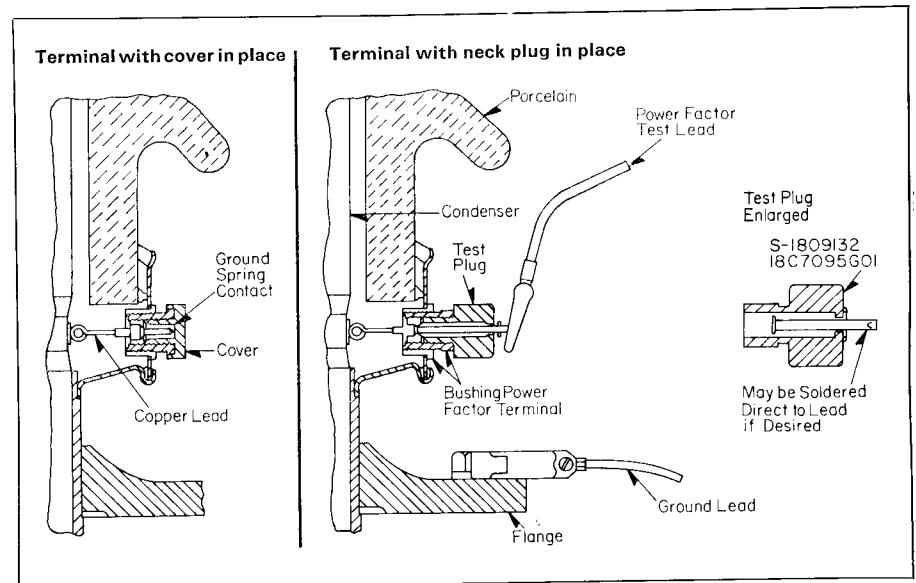
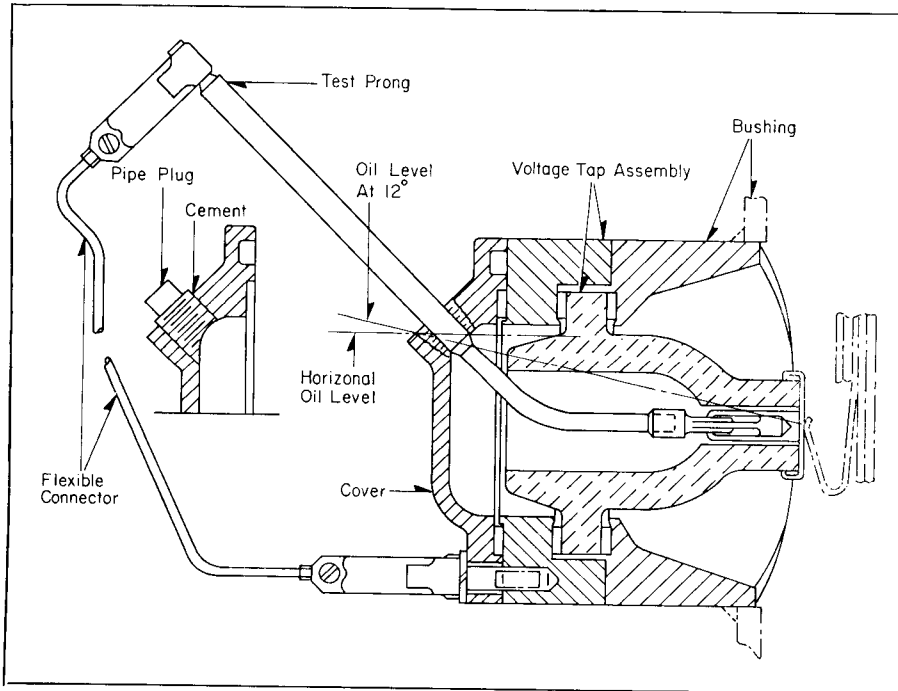

Figure 31: Power Factor Testing Terminal for Making Ungrounded Power Factor Tests on Condenser Bushings 69 Kv and Below.
Figure 32: Test Prong for Making Ungrounded Power Factor Tests through Voltage Tap on Bushings above 69 Kv.
This method is used for making power factor and capacitance measurements of a bushing without disconnecting it from the apparatus. Ten kv test voltage can be applied to the bushing conductor for bushings rated 23 kv and above (use five kv or less for bushings below 23 kv), but do not apply more than 500 volts to the power factor test terminal (Figure 31) or 2500 volts to the test prong (Figure 32). This will avoid damage to the test terminal or corona in the test prong.
- a. For power factor taps (Figure 31) — a 500 volt "megger" should read 5,000 megohms or more.
- b. For voltage taps (Figure 32) — grounded-specimen test (tap at high voltage-lead and flange at ground).